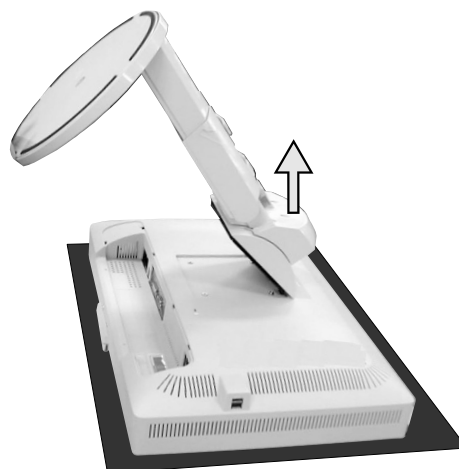

Figure S.4
5. Remove the stand (**Figure S.4**).